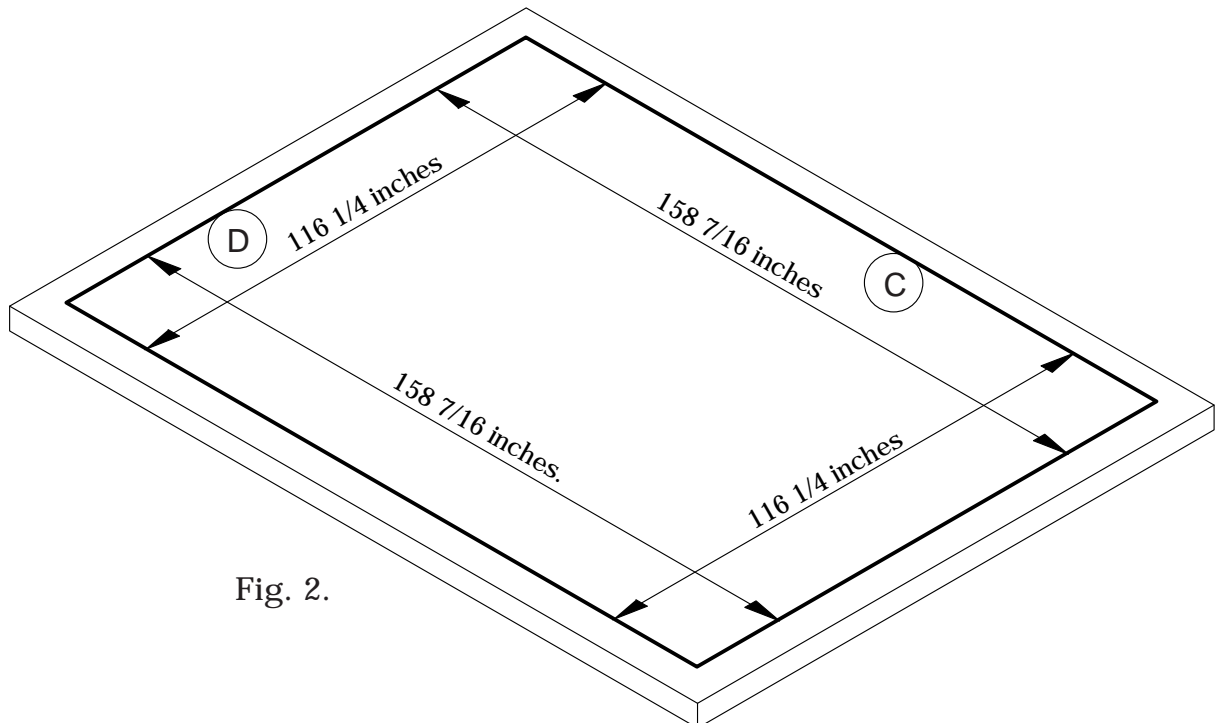

Fig. 2.
2. Mark two parallel lines C & D to A & B as shown in fig. 2.